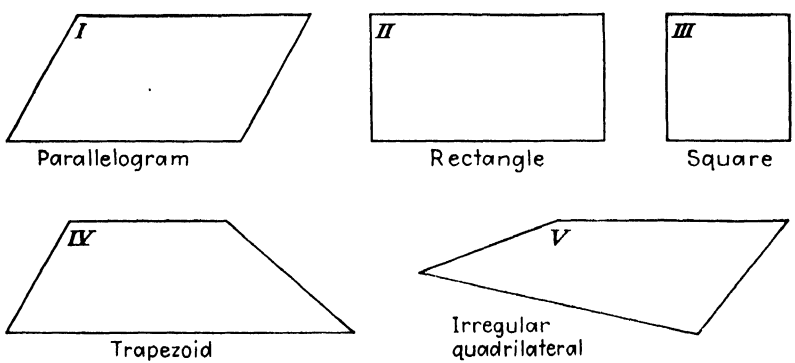

Fig. 109.
2. Measure each angle in the quadrilaterals (4-sided plane figures) in Fig. 109, after drawing similar figures